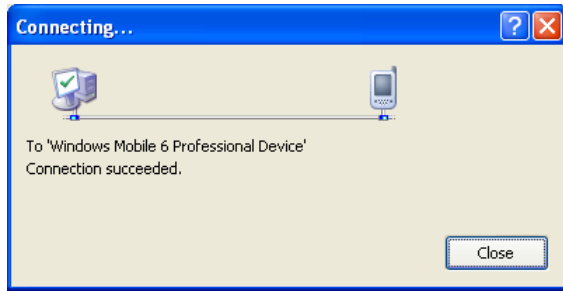

Figure 5.8
9. Choose **Windows Mobile 6 Professional Device** in the list of **Devices:** and click **Connect** button. The screen in Figure 5.8 if appear indicates the success of connection establishment.